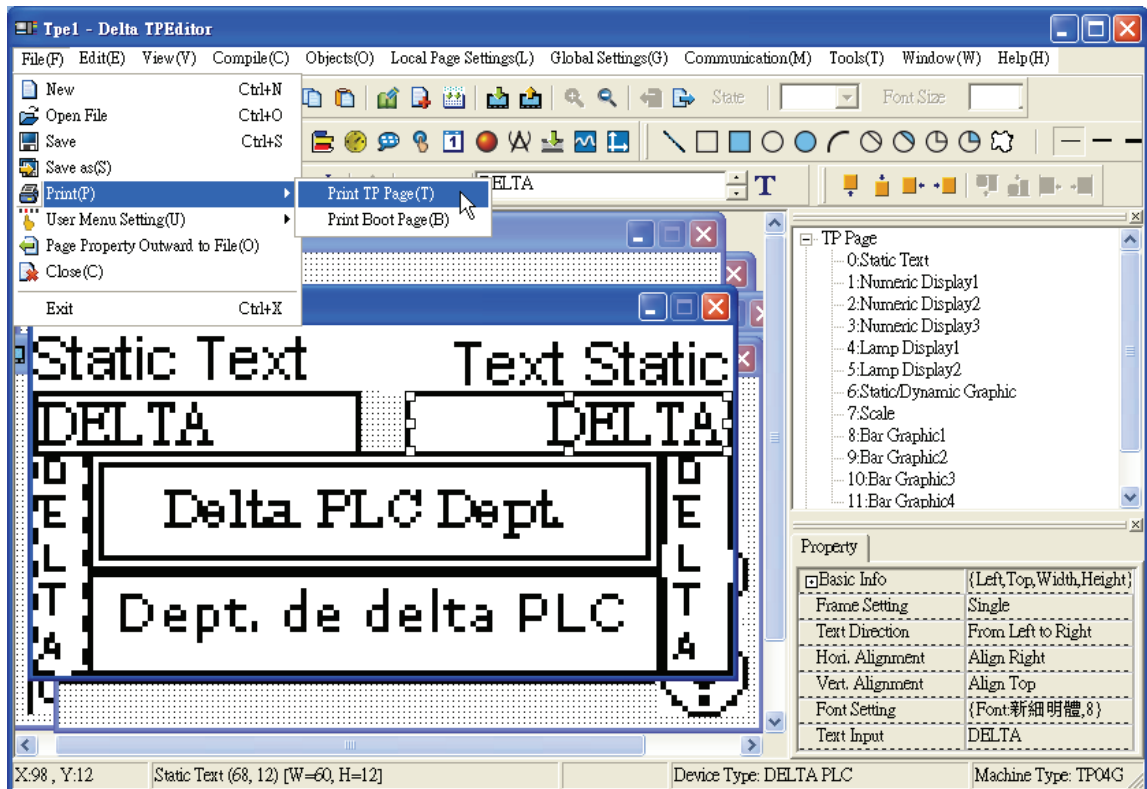

Figure 1-45
Step 1. Click **File (E) > Print** (Figure 1-45). Choose **Print TP Page** or **Print Boot Page**.